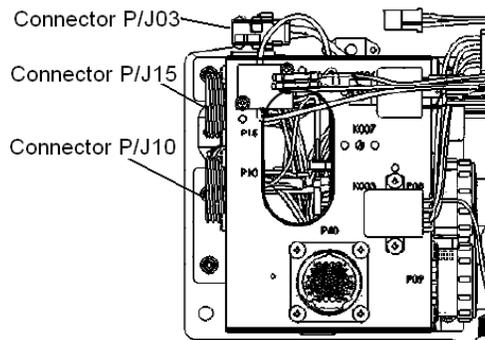

Figure 34-15 Left Hand Side of the Power Distribution Harness Assembly
7. Connect P03, P10, and P15 to their mating connectors on the power distribution bracket. See Figure 34-15 for location of P/J03, P/J10, and P/J15.